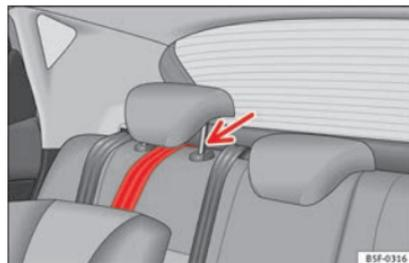

Fig. 80 Retainer strap: correct adjustment and fitting.
- Guide the Top Tether fastening belt under the rear seat head restraint »» **Fig. 80** (lift the head restraint where necessary).